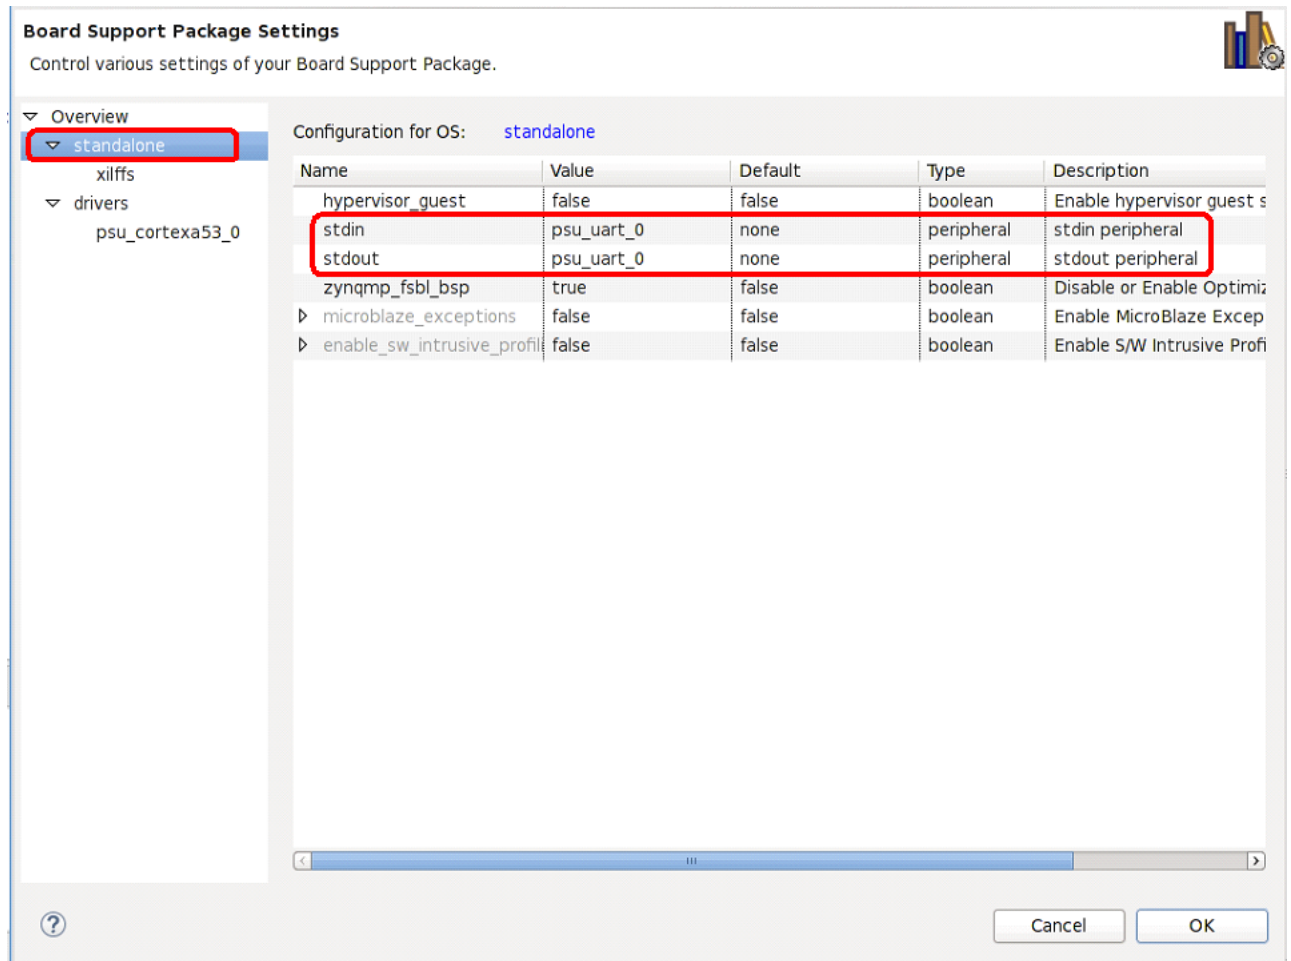

Figure 5: Setting Up the UART Output Using the BSP Settings
2. In the **Board Support Package Settings** window, expand the Overview tree, then click **standalone** as shown in Figure 5.